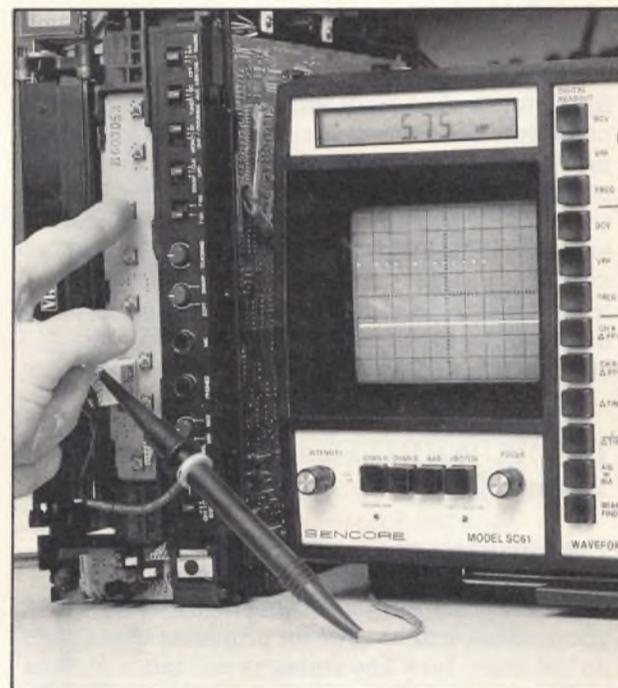

Fig. 2: Serial data output from the encoder changes when different buttons are pushed. This shows that the encoder is working.
Fig. 2: (A). One side of the AC line is connected directly to the chassis in the half wave supply. (B). There is always 67 volts between the chassis and earth ground in a bridge rectifier supply.
Tom hooked the SC61 probe to the micro's op code input, IC203 pin 18, and pushed the front panel switches one at a time. There was no data. Was the input circuit generating serial data? Tom moved the probe to the key encoder serial output (IC1 pin 17). The SC61 locked onto the output pulses as Tom pushed the front panel switches (Figure 2). Peak-to-peak voltage was right on and the data pattern changed as each switch was depressed.